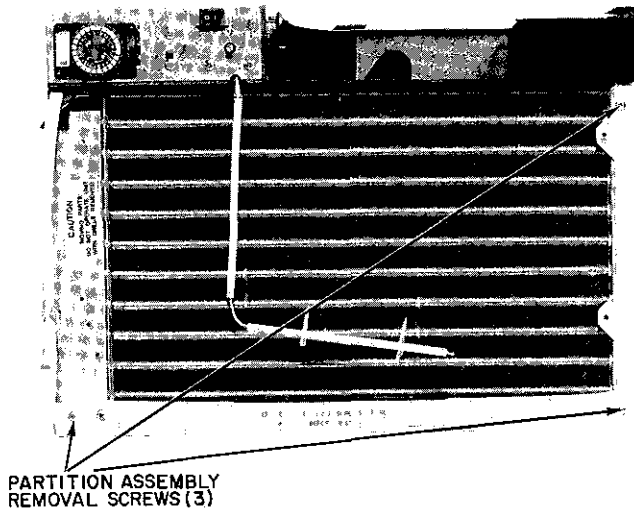

Fig. 17 — Partition Assembly Screws
- a Remove 3 screws in front of unit as shown in Fig 17.